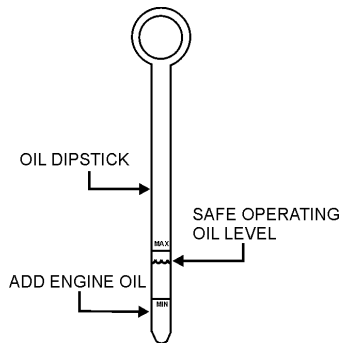

Figure 9. Engine Oil Dipstick Check
4. Pull out the dipstick and check the oil level (Figure 9).